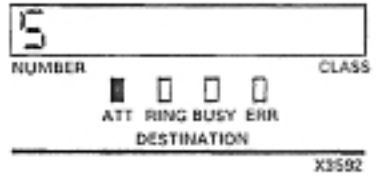

Fig. 335-1
* DESTINATION display shows digit 'n' (in Fig. 335-1 'n' is '5')